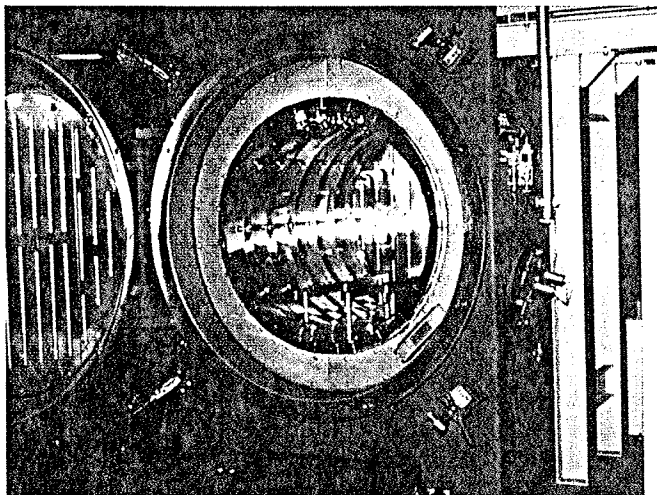

Fig. 3 Vacuum furnace chamber for brazing cycle is designed with five all-metal heat shields and moly heating elements.
The hot zone, which is a more or less standard VFS design, utilizes five (5) all metal heat shields and the standard moly heating element 3 in. wide by .025 in. thick, arranged in a traditional round configuration (see Fig. 3).